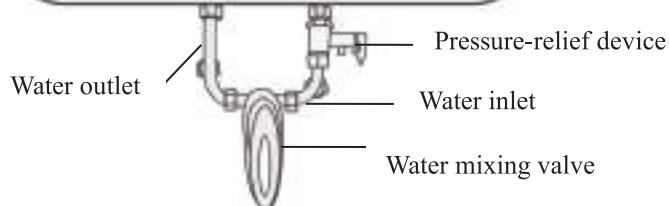

Fig. 4
1. Hard connection: water mixer connecting the appliance: see Fig. 4